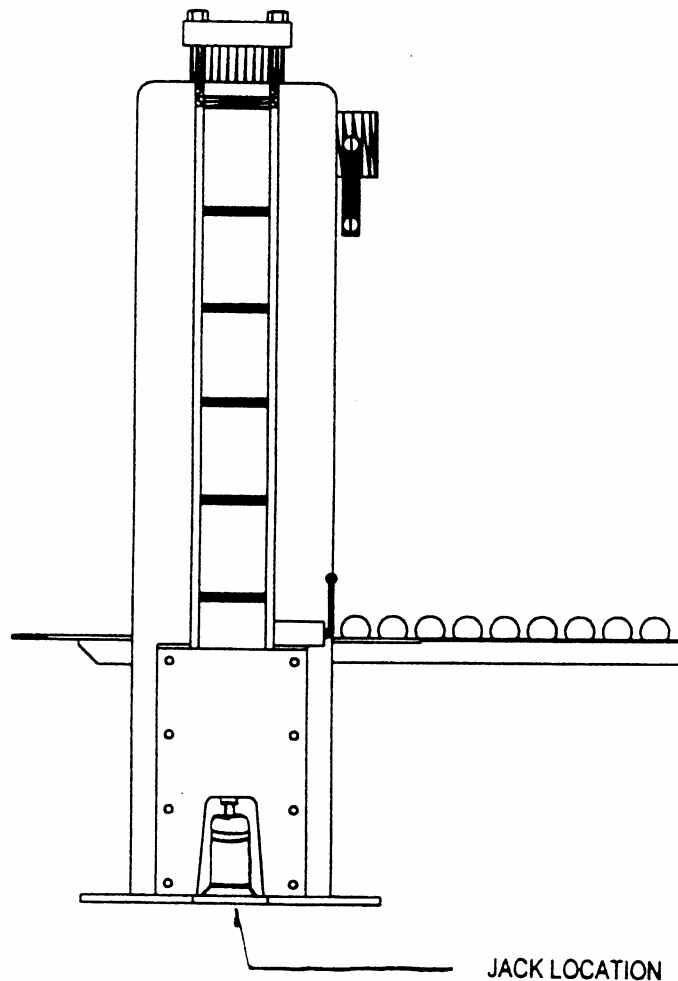

FIGURE 4
- 11- Place a 20-ton hydraulic jack in the place provided and raise the Chris Cutter off of the supporting blocks. Fig. 4.